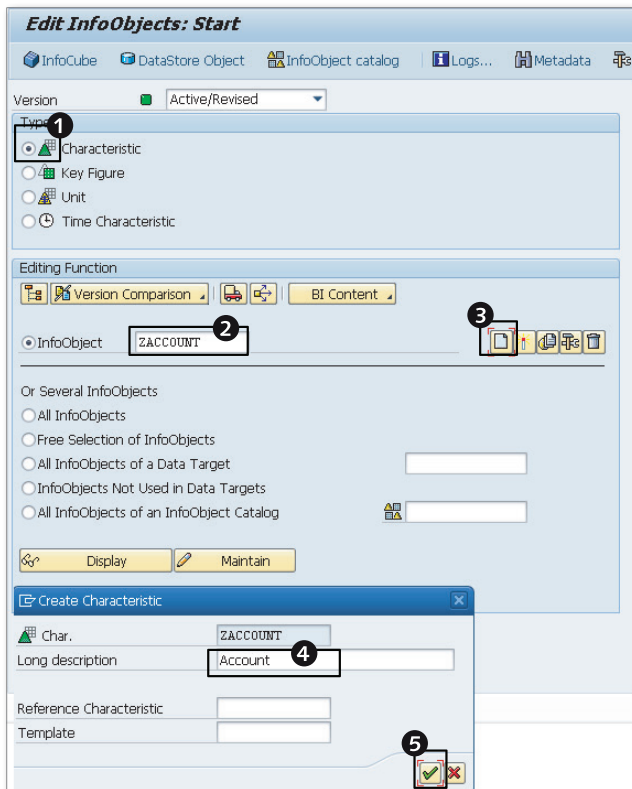
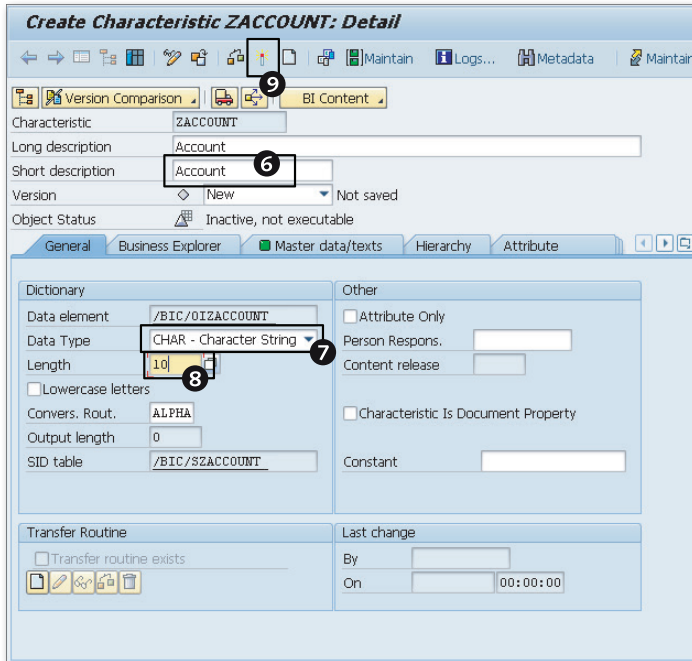

Figure 3.6 Settings to Create a New Characteristic InfoObject
Figure 3.7 Activating a Custom InfoObject
We'll start by creating the InfoObject ZACCOUNT (Account), as illustrated in Figure 3.6 and Figure 3.7. This InfoObject should be a characteristic InfoObject.
2. Under TYPE, select CHARACTERISTIC (Figure 3.6, ①).
3. In the text field next to the INFOOBJECT option, enter the technical name of the InfoObject ("ZACCOUNT"), and click on the CREATE button (Figure 3.6, ② and ③).
4. In the CREATE CHARACTERISTIC dialog box, in the LONG DESCRIPTION text field, enter a description ("Account"), and then click on the ENTER button (Figure 3.6, ④ and ⑤).
5. On the GENERAL tab of the CREATE CHARACTERISTIC <INFOOBJECT_NAME>: DETAIL window, enter the SHORT DESCRIPTION ("Account"), select the DATA TYPE (CHAR - CHARACTER STRING), and enter the LENGTH ("10") (Figure 3.7, ⑥, ⑦, and ⑧).
6. No attributes are required for this InfoObject, so you can click on the ACTIVATE icon on the toolbar (Figure 3.7, ⑨).